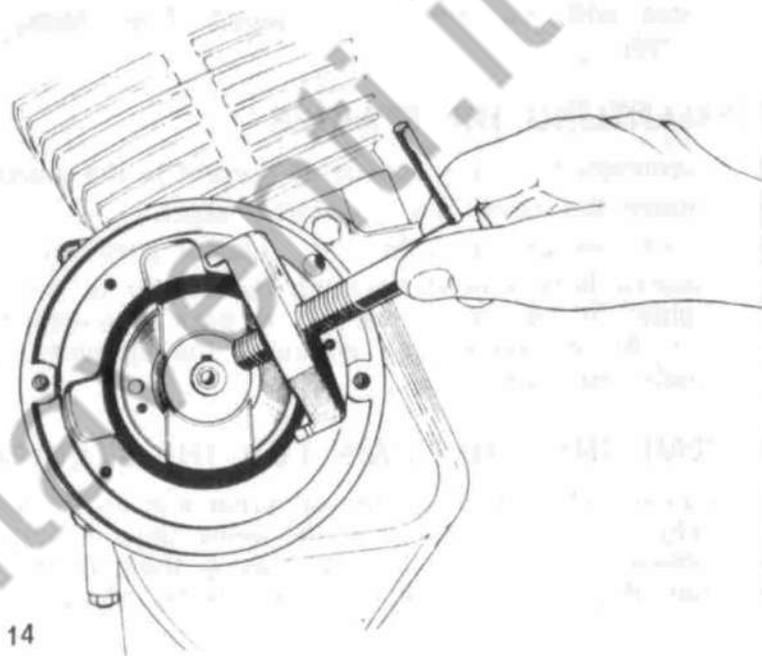

Fig. 14
- 4) Unscrew the bolt locking the automatic spark advance flange; then, using the special extractor (Fig. 14), detach the flange from its shaft.